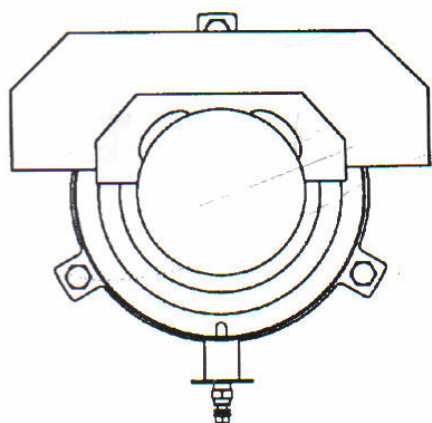

Fig.37
5. Place the back restrictor plate on the burner assembly and fit the fuel bed support frame as shown in fig. 37.